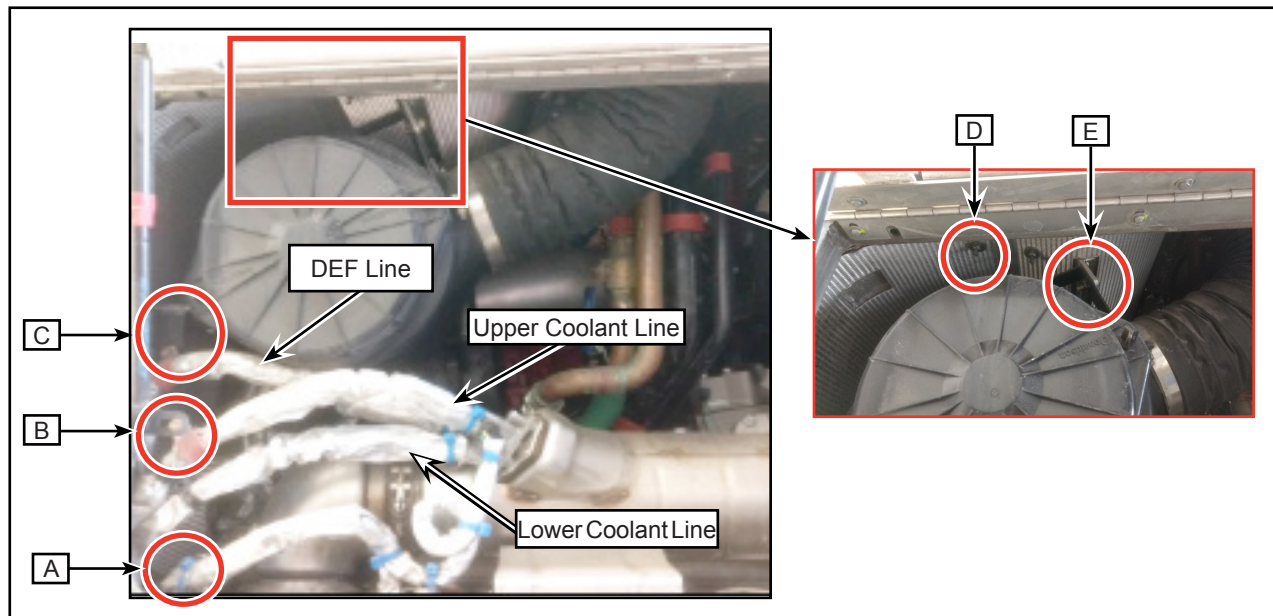

Figure 8 - Typical View of Coolant Lines
- 1.9. Locate the decomposition coolant lines (see Figure 8).
1.10. Locate all the positions (A, B, C, D and E) shown (see Figure 8), where new brackets have to be installed.